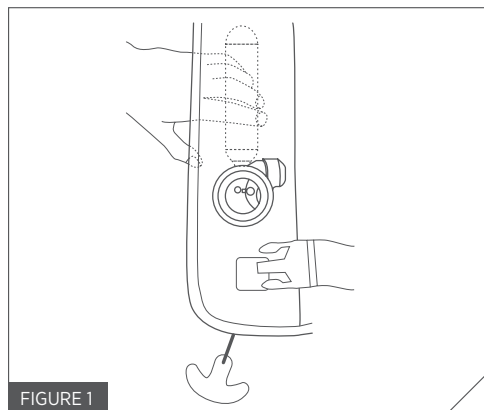

FIGURE 1
1. Place the inflatable PFD/life jacket on a smooth, flat surface and wipe off any water. If needed, unpack the PFD/life jacket starting at the zipper flap. Access the inflator by reaching between the cover and cell and pull it toward you, turning the cell and cover inside out to fully expose the inflator for re-arming. Hold the CO₂ cylinder through the fabric, using one hand (Fig. 1).